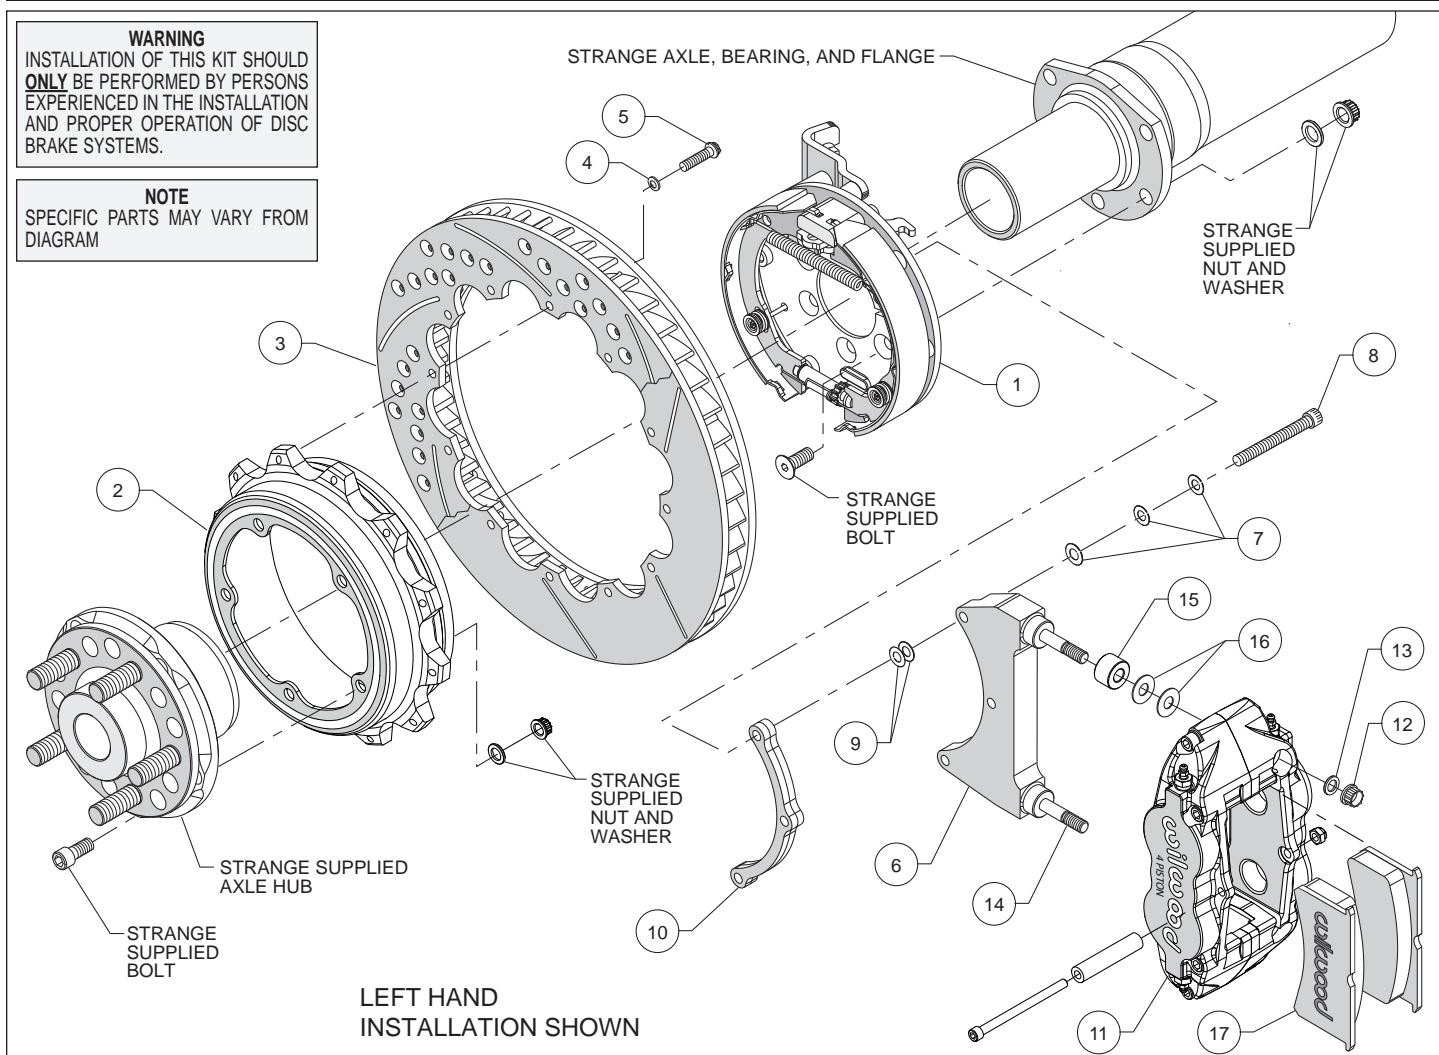

Figure 1. Typical Installation Configuration
Assembly Instructions (numbers in parenthesis refer to the parts list and Figure 1 on the preceding pages): **CAUTION:** All mounting bolts must fully engage threaded holes.
- Orient the bracket assembly (1) as shown in Figure 1 and slide it onto the axle housing flange. Ensure that the bracket assembly backing plate fits flush against the axle housing flange. Secure bracket assembly to the axle flange using bolts, washers, and lock nuts (all Strange supplied) as shown in Figure 1. Apply red *Loctite*® 271 to the bolt threads and torque to Strange specifications.
- **NOTE:** Please reference the caution statement at the beginning of the assembly instructions. The caliper mounting bracket assembly (6) should be installed first with clean, dry threads on the mounting bolts (8). Install the bracket using bolt (8), three flat washers (7), shim washer (9) and spacer (10), as shown in Figure 1. **NOTE:** End of bolt should not exceed inside face of insert. The bracket must tighten squarely against the back side of the bracket kit assembly (1). Inspect for interference from the axle flange. Use two thin shims (9) between the bracket (6) and spacer (10) during initial trial fitting. Later, after the caliper alignment has been checked, the mount bolts will be secured using red *Loctite*® 271.
- Orient the rotor (3) and the hat (2) as shown in Figure 1. Attach rotor to hat using bolts (5) and washers (4). Using an alternating sequence, apply red *Loctite*® 271 to the threads, and torque to 155 in-lbs.
- Orient the hat (2) and the axle hub (Strange supplied) as shown in Figure 1. Attach the hat to the axle hub using bolts, washers, and lock nuts (all Strange supplied) as shown in Figure 1. Apply red *Loctite*® 271 to the bolt threads and torque to Strange specifications.
- Slide the rotor/hat/hub assembly onto the axle as shown in Figure 1 and secure per Strange Engineering specifications.
- Lubricate the caliper mounting studs (14) with lightweight oil. Initially place two .035" thick shims (16) and one spacer (15) on each stud between the caliper and the bracket, as shown in Figure 1 and Photo 1. Mount the caliper (11) onto the bracket (6) using lock nuts (12) and washers (13), Figure 1. Temporarily tighten the lock nuts and view the rotor through the top opening of the caliper. The rotor should be centered in the caliper, Photo 2. If not, adjust by adding or subtracting shims (9) between the bracket (6) and the spacer (10). Always use the same amount of shims on each of the two mounting bolts. Once the caliper alignment is correct, remove the bracket mounting bolts one at a time, apply red *Loctite*® 271 to the threads, and torque to 180 in-lb.
- Remove the caliper center bridge pad retainer bolt, nut, and tube from the caliper. Insert the brake pads (17) into the caliper, with the friction material facing the rotor, as shown in Photo 3. Check that the top of the brake pad is flush with the outside diameter of the rotor, Photo 4. If not, adjust by adding or subtracting shims (16) between the caliper and the bracket. After the caliper pad height is set, torque the caliper lock nuts (12) to 30 ft-lb. Secure the brake pads in place with the center bridge pad retainer tube, bolt, and locknut. The locknut should be snug without play in the bolt or tube. Be cautious not to over tighten.